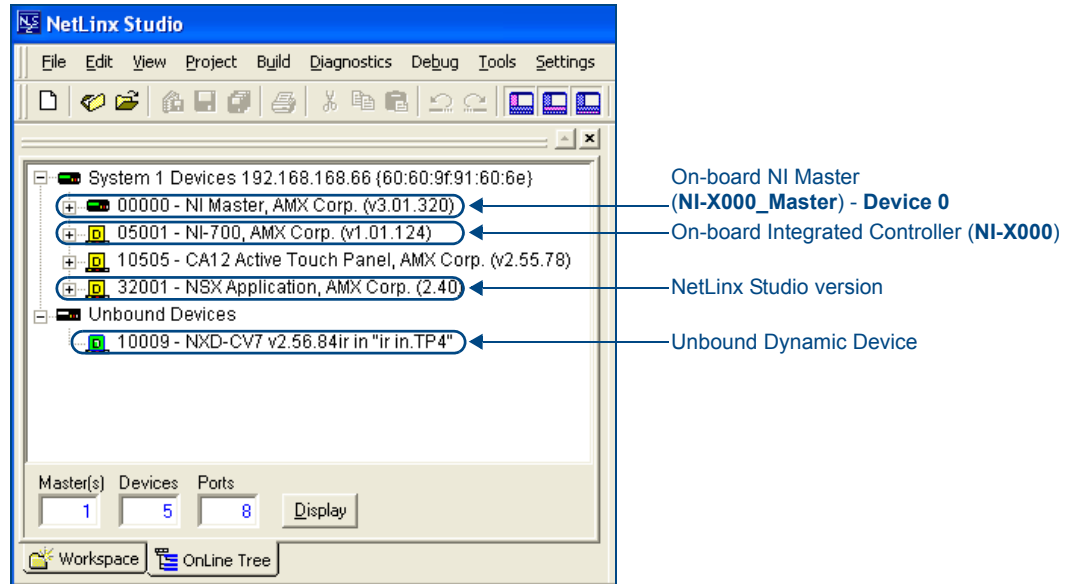

FIG. 7 Sample NetLinx Workspace window (showing separate NI-Master and Controller)
2. After Studio has established a connection to the target Master, click the **OnLine Tree** tab of the Workspace window to view the devices on the System. *The default System value is one (1).*
4. After the Communication Verification dialog window verifies active communication between the PC and the NI unit, verify the Integrated Controller appears in the **OnLine Tree** tab (FIG. 7) of the Workspace window (ex: NI-4000 or NI-700). This entry is different than the NI Master which uses a device value of 00000 (see below):